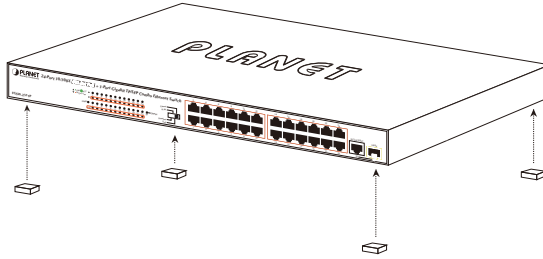

Figure 3-3: Attaching the Rubber Feet to the FGSW-2511P
Step 1: Attach the rubber feet to the recessed areas on the bottom of the FGSW-2511P, as shown in Figure 3-3.